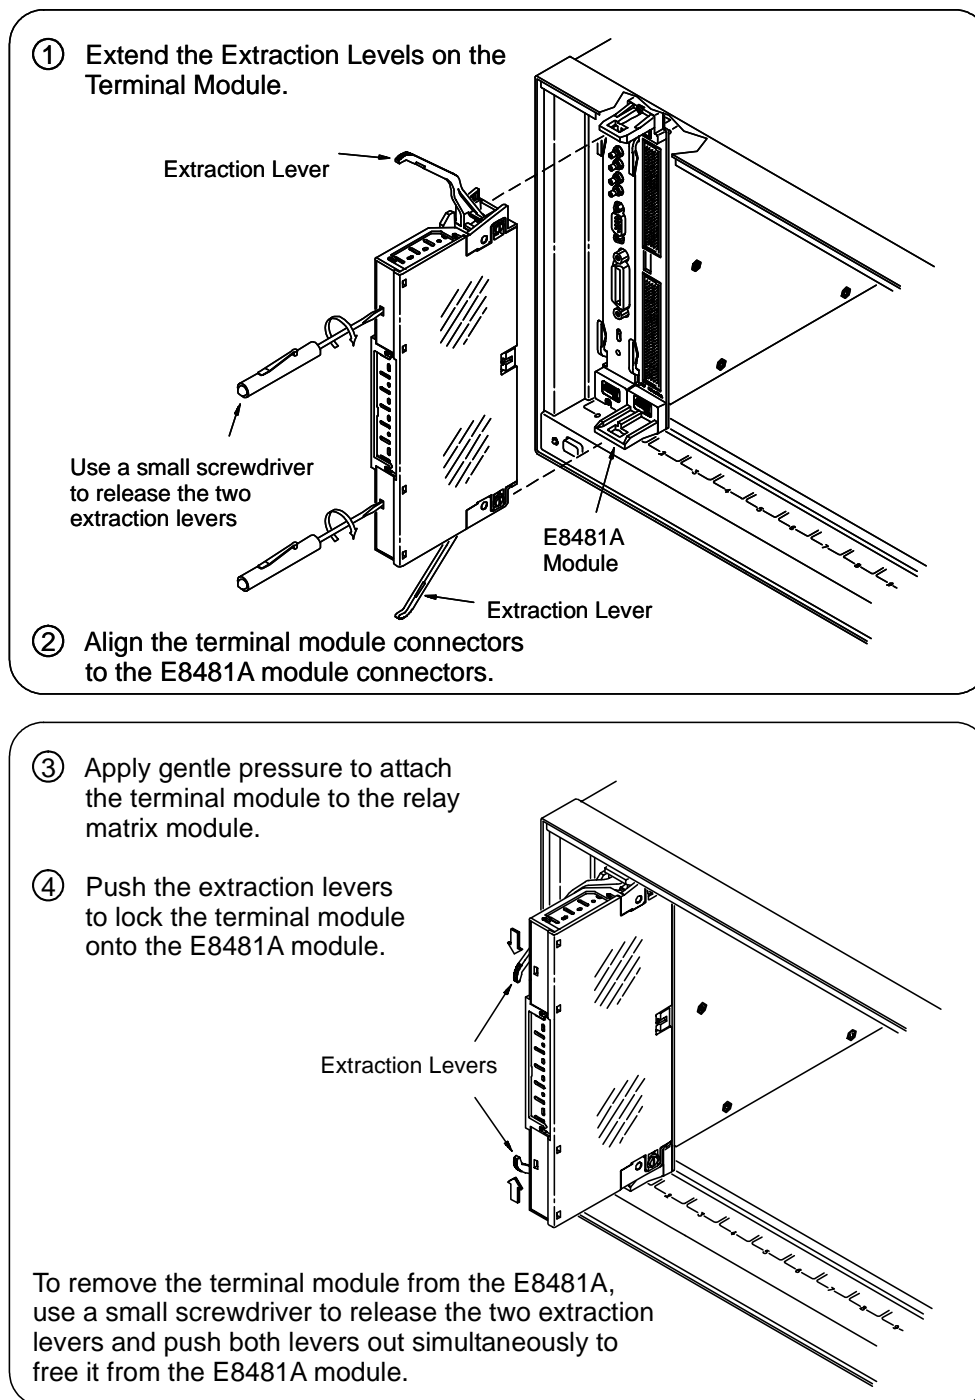

Figure 2-7. Attach a Terminal Module to the E8481 Matrix Module
**7. Attach the Terminal Module to the Matrix (see Figure 2-7 for more information)**
Figure 2-7 shows how to attach a terminal module to the E8481A Relay Matrix Switch module.